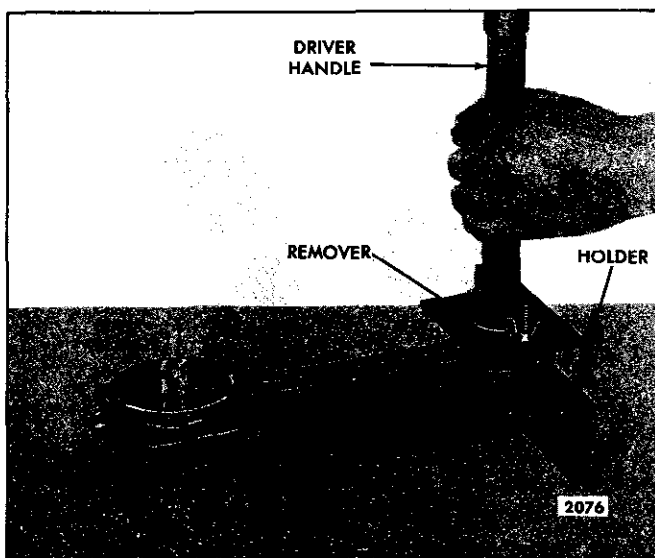

Fig. 4 – Removing or Installing Bushings
1. Clamp the upper end of the connecting rod in holder J 7632 (Fig. 4) so that the bore in the bushings is aligned with the hole in the base of the holder.
1. Clamp the upper end of the connecting rod assembly in holder J 7632 so that the bore for the bushings aligns with the hole in the base of the tool (Fig. 4).